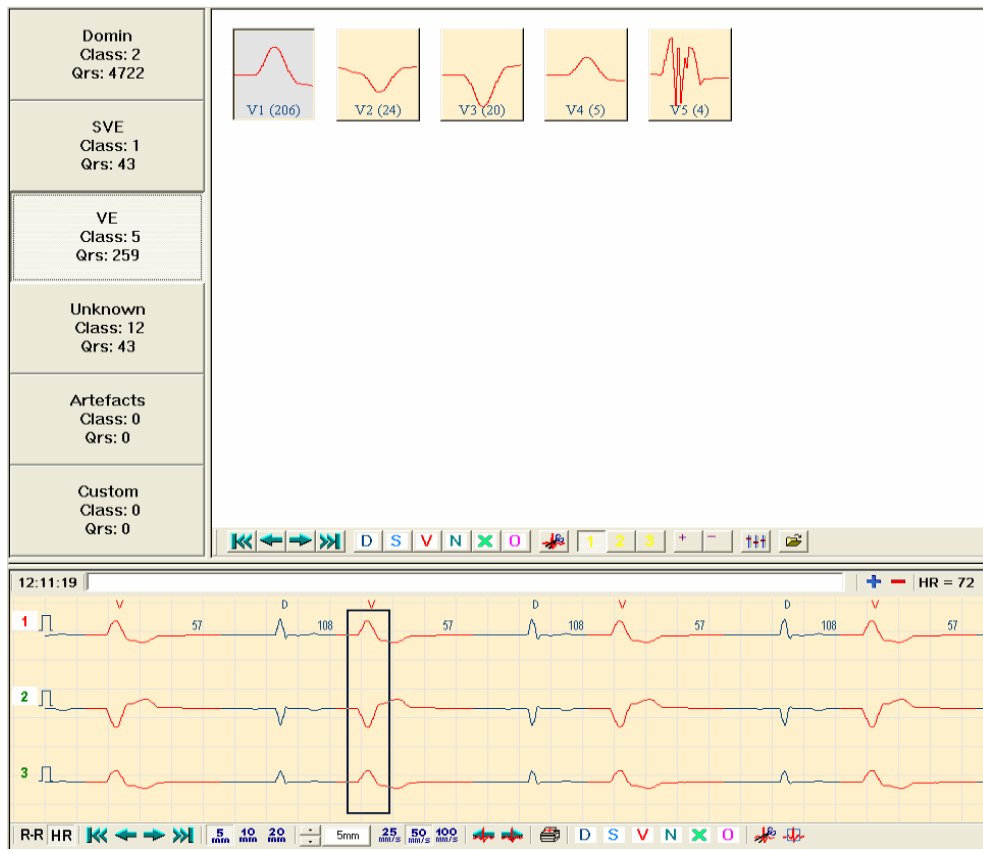

Figure 39. Template module
- The most numerous class (first on the list) of given morphology will be marked out because classes are always placed by the number of QRS. The selected class is indicated with a colour changing of the button which will be the same as a colour of the strip (see Figure 39).